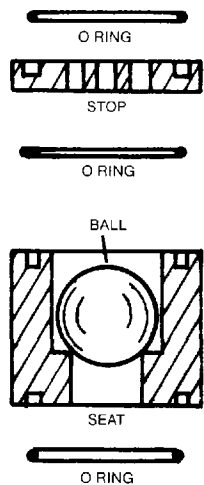

Fig. 35
- b) TFE Valves (Figure 35), for applications requiring the chemical resistance of TFE.